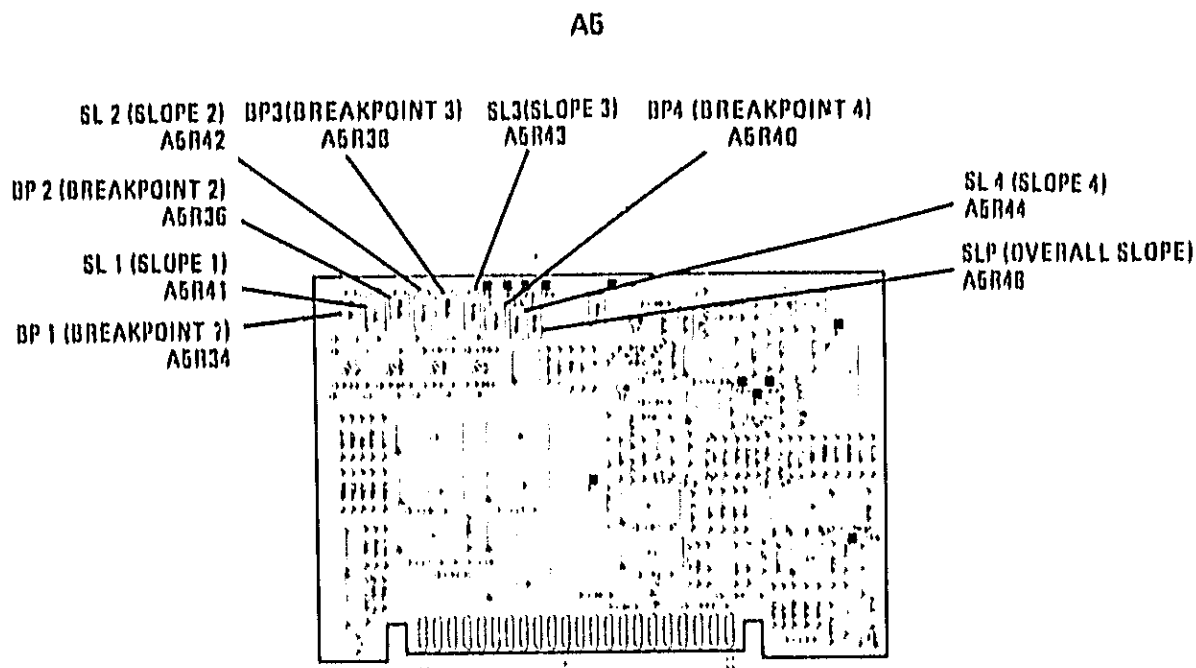

Figure 5-32. Internal Leveling Adjustment Locations
2. Adjust all breakpoint potentiometers fully clockwise to effectively remove the circuit from the leveling loop (A5R34 (BP1), A5R36 (BP2), A5R38 (BP3), and A5R40 (BP4)). Refer to Figure 5-32 for adjustment locations.